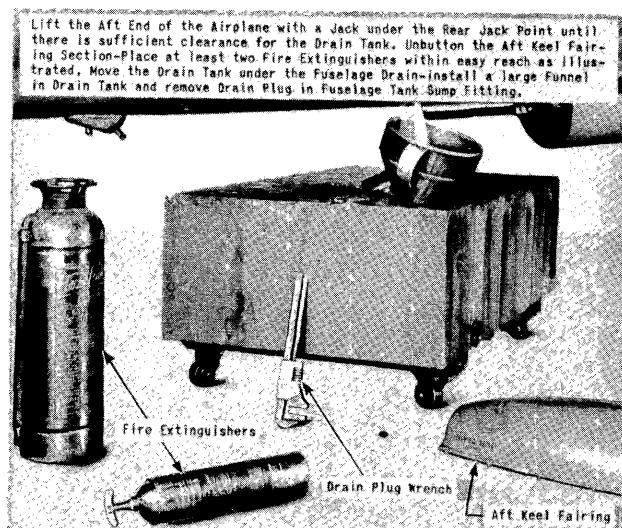

Figure 209 - Draining Fuselage Fuel Tank
(1) Unbutton the aft section of the keel fairing and remove the fairing exposing the fuselage tank drain.
(2) Place a jack under the rear jack point, aft of the tail wheel doors, to raise the fuselage enough to accommodate a drain tank. (See figure 209.)
(3) Have at least two fire extinguishers available in case of fire. (See figure 209.)
(4) Insert a large funnel in the drain tank (figure 209) and remove the fuselage tank drain plug with a suitable wrench. After all fuel has drained from the tank replace the drain plug and remove the drain tank from under the fuselage.